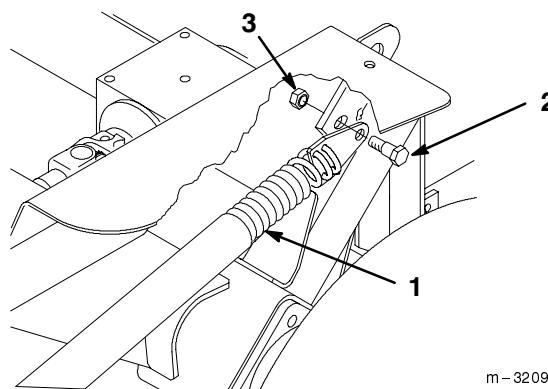

**Figure 5**
1. Position carrier frame in front of traction unit and place push arms into clevises (Fig. 5).
2. Retain push arms with pivot pin assemblies, aligned with flat against frame, and secure with hairpin cotters (Fig. 5).